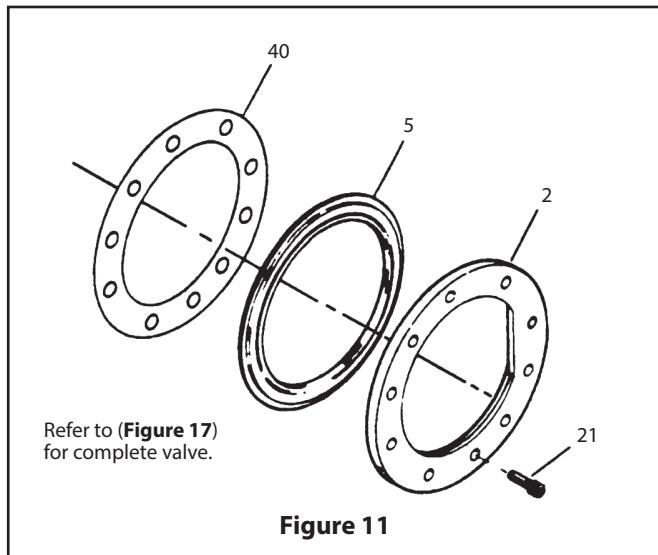

Figure 11
- 11. Verify that the disc is in the level position. Install new seat and insert (see **Figure 11**). Install the insert screws, and tighten them in a uniform sequence. Torque values are given in (**Table 1**). Open valve and retorque the insert screws (per **Table 1**). Take care not to damage the sealing edge of the disc. Close the valve.